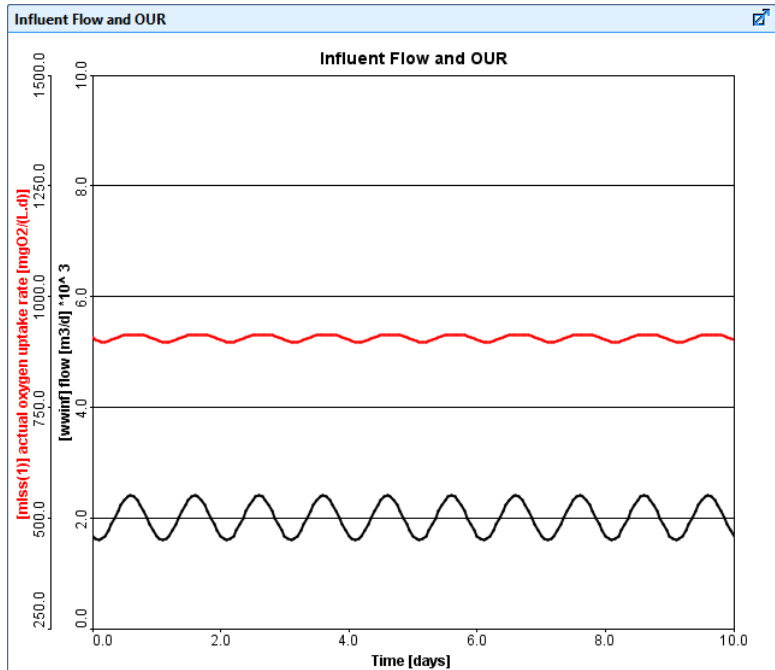

Figure 11-3 – Example Graph from Dynamic Simulation
10. **Run a 10-day dynamic simulation** (with the steady-state box checked) to ensure that the model is correctly set up. You should be able to produce a graph similar to **Figure 11-3**.